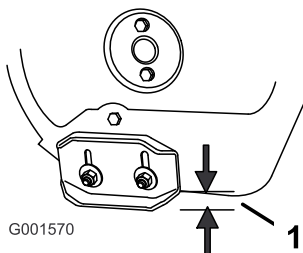

Figure 24
2. Loosen the nuts that secure both skids to the auger sides until the skids slide up and down easily (Figure 24).